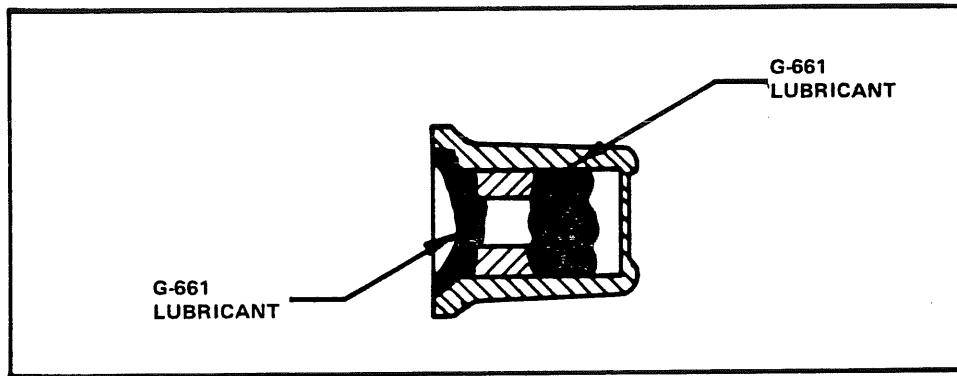

Figure 26. Lubrication of POSITION control knob.
(see Figures 26 and 27)**
(1) Apply G-661 lubricant to the POSITION knob as shown in Figure 26.